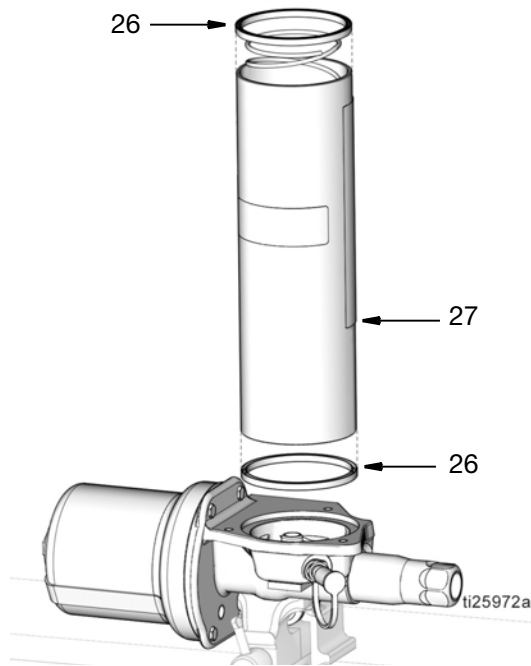

FIG. 56
11. Install reservoir gaskets (26) to top and bottom of reservoir (27) as shown in FIG. 56.